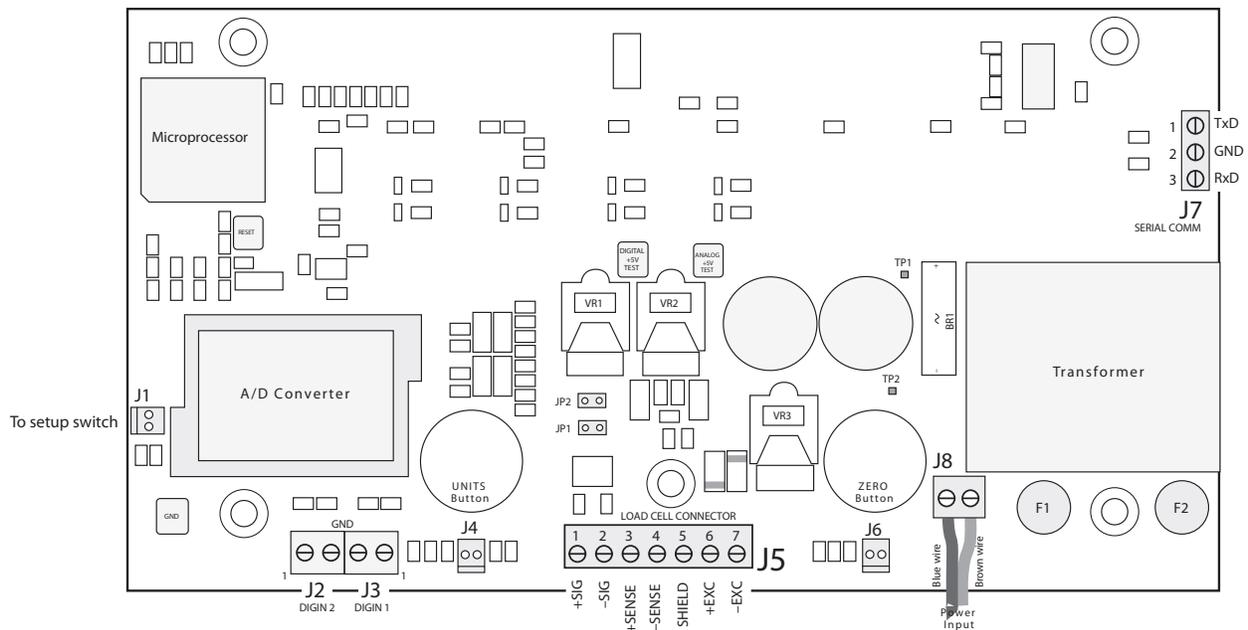

Figure 2-2. IQ Plus 210 CPU and Power Supply Board
Wire the load cell cable from the load cell or junction box to connector J5 as shown in Table 2-2. If using 6-wire load cell cable (with sense wires), remove jumpers JP1 and JP2 (see Figure 2-2). For 4-wire installation, leave jumpers JP1 and JP2 on.
The load cell compensation jumper (above the ZERO button location on the CPU board; see Figure 2-2) must be set for the type of load cell connected to the indicator:
2. Remove connections to J5 (load cell cable), J7 (serial communications), J2 and J3 (digital inputs), J4 and J6 (piezo button inputs), and J1 (setup switch). Remove blue and brown power input wires at J8. See Figure 2-2 on page 11 for connector locations.